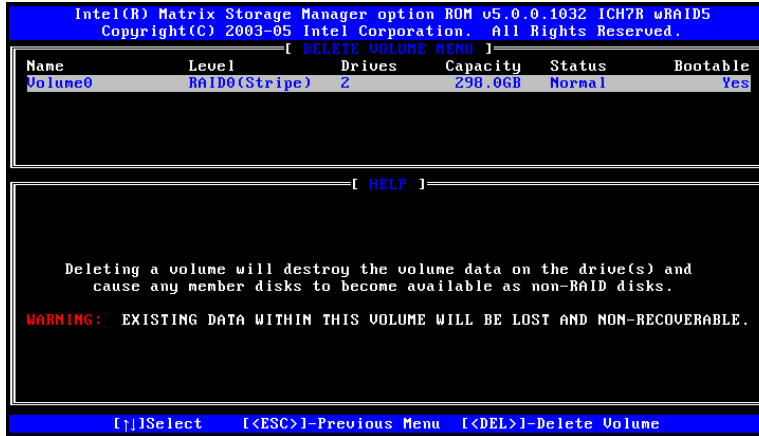

Figure G-9: Select RAID Volume to be Deleted
Step 2: Select RAID Volume to be Deleted. Use the arrow keys to highlight the RAID volume to be deleted and press **ENTER**. See **Figure G-9**.